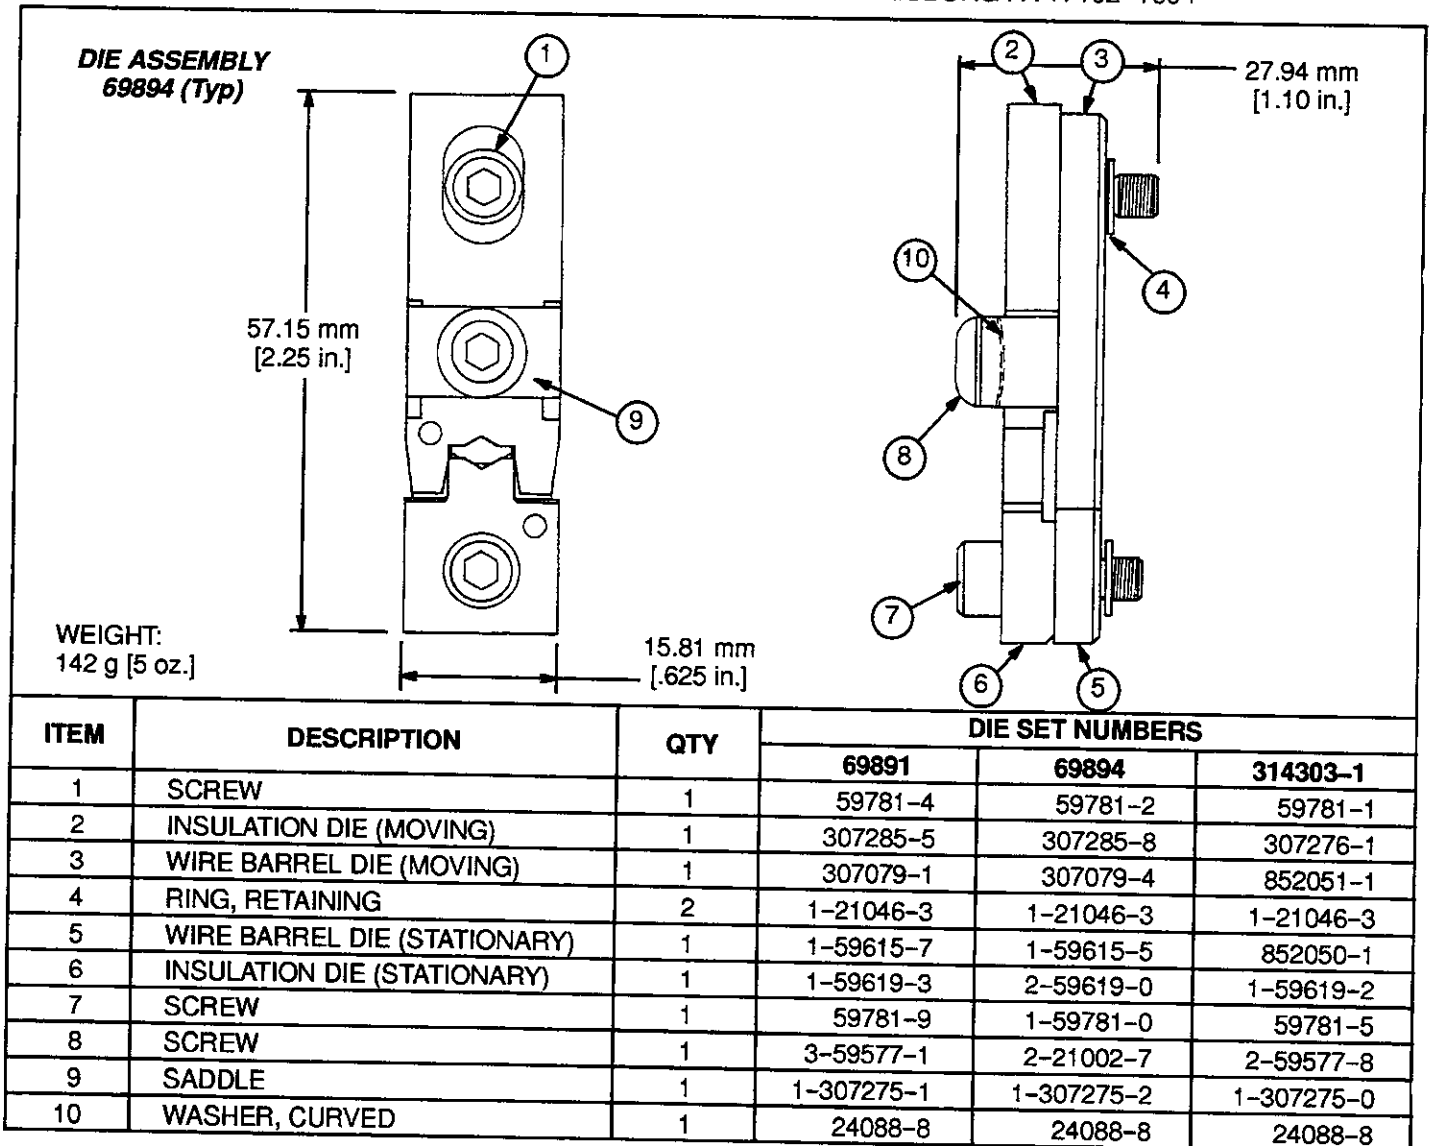

Fig. 7
The dies are thoroughly inspected before shipping. The dies should be inspected immediately upon arrival at your facility to ensure the dies have not been damaged during shipment, and that they conform to Figure 7. If the dies are damaged upon arrival, retain the shipping container, file a claim with the carrier, and notify AMP Incorporated immediately.
2. Make sure all die holding screws, retaining rings, and die components are in place. Refer to the parts list in Figure 7 if replacements are necessary.
The parts listed in Figure 7 are customer-replaceable. A complete inventory can be stocked and controlled to prevent lost time when replacement of parts is necessary. Replacement parts or additional dies can be ordered by contacting: